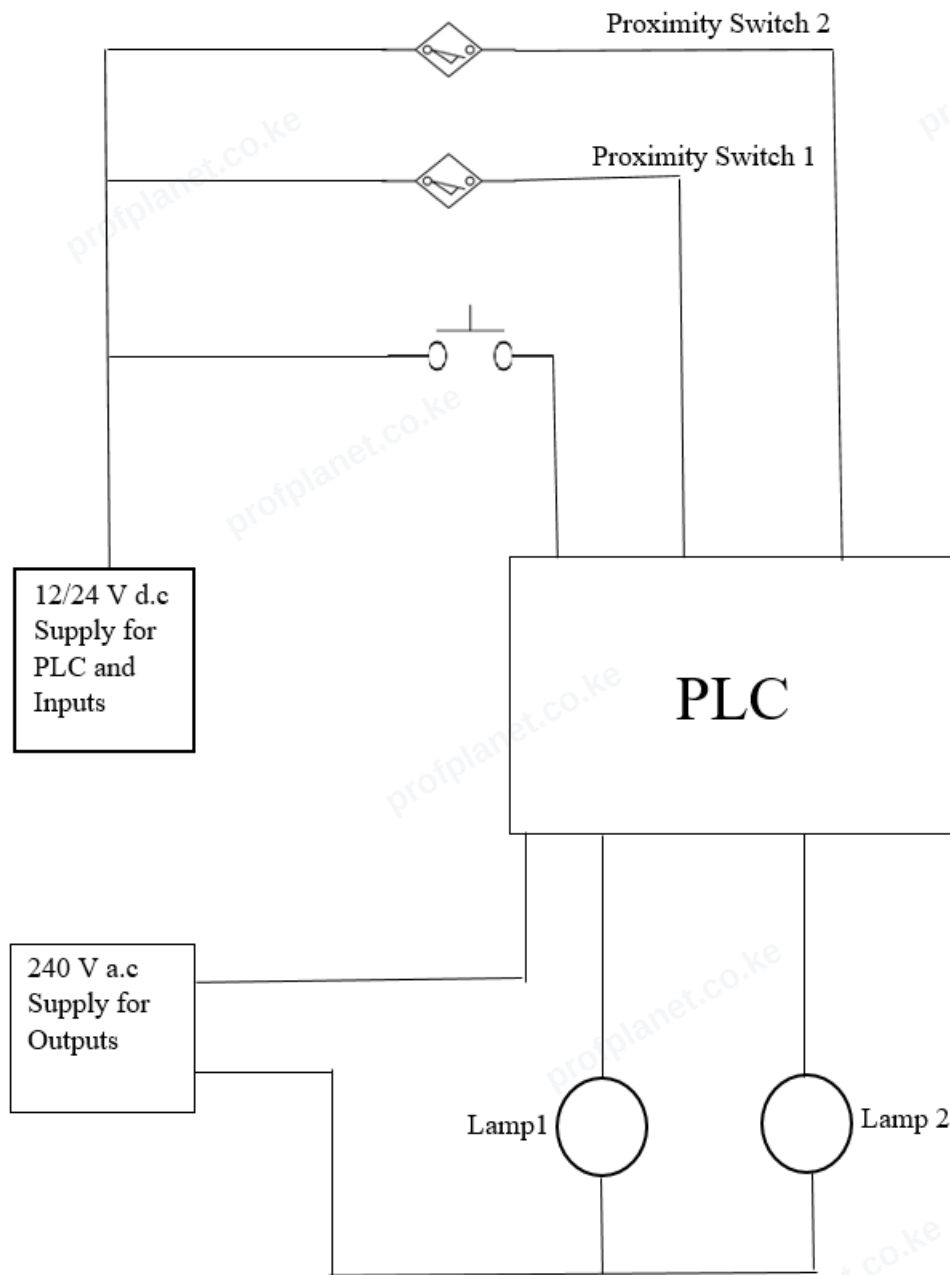

Figure 1
- b. Install the system as per Fig 1